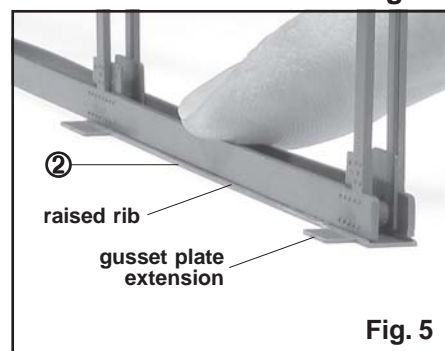

Fig. 5
Note that all bent lattices have a raised rib along each edge on one face. To assemble the **outside bent lattice**, lay part (2) flat on the work surface with the rib side up. See fig. 5. Place the bent assembly on edge on top of part (2) so the ribs are on the outside of each bent half. Cement in place, one edge at a time,
See fig. 5 & 8.